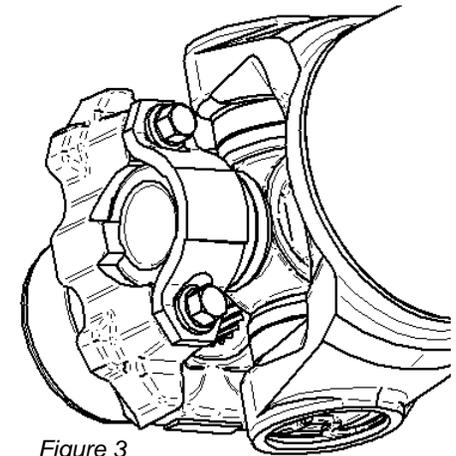

Figure 3
- 5) For Ultimate Dana 60 (1350 Series U-joint) and Ultimate Dana 80 (1410 Series U-joint) Axles. Make sure the bearing cups of the u-joint are seated in the half round end yoke. Install the bearing strap kit with a torque of 43 Nm (32 ft-lbs) on all four bolts. Refer to figure 3 below.